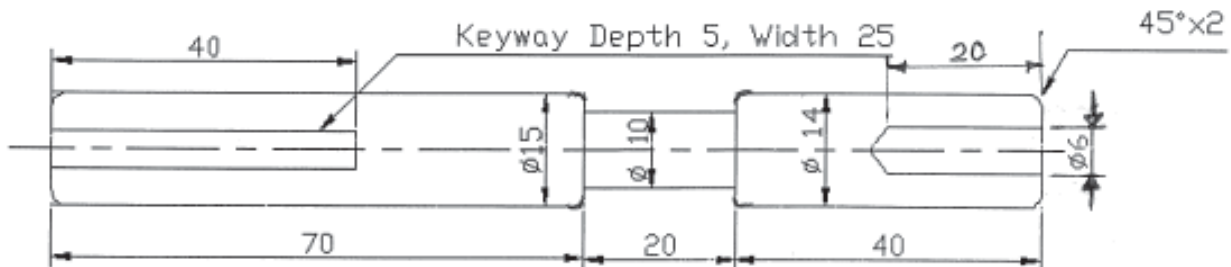

Fig.No.1.Guidebar
1. Referring to Fig. No. 1, design the set of plate types of cams for a single spindle automat machine. Assume suitable data of machining parameters for mild steel material. The bar stock is $\Phi 15 \times 130$ and 200 pieces are to be manufactured. Also draw the layout for turret cam. 18